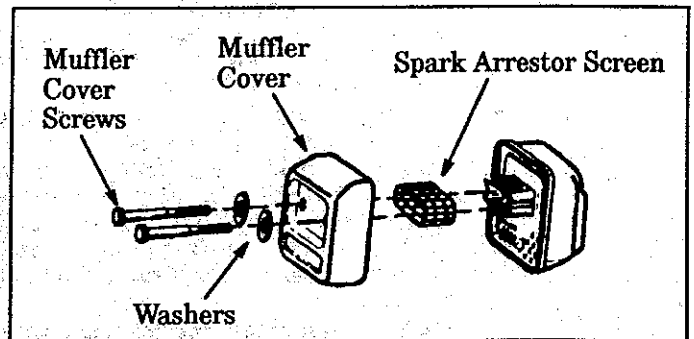

Figure 36
2. Remove the muffler cover screws and washers. Remove the muffler cover. Figure 36.
3. Remove the spark arrestor screen. Figure 36.